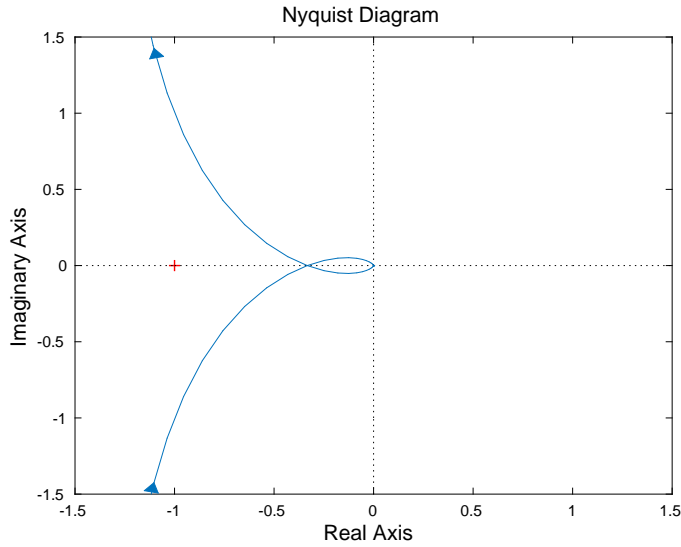

Figure 6.2 Nyquist plot for the system in problem 6.2.
- b. What is the amplitude- and phase-margin of the system with Nyquist plot as in Fig. 6.2? The system is stable.